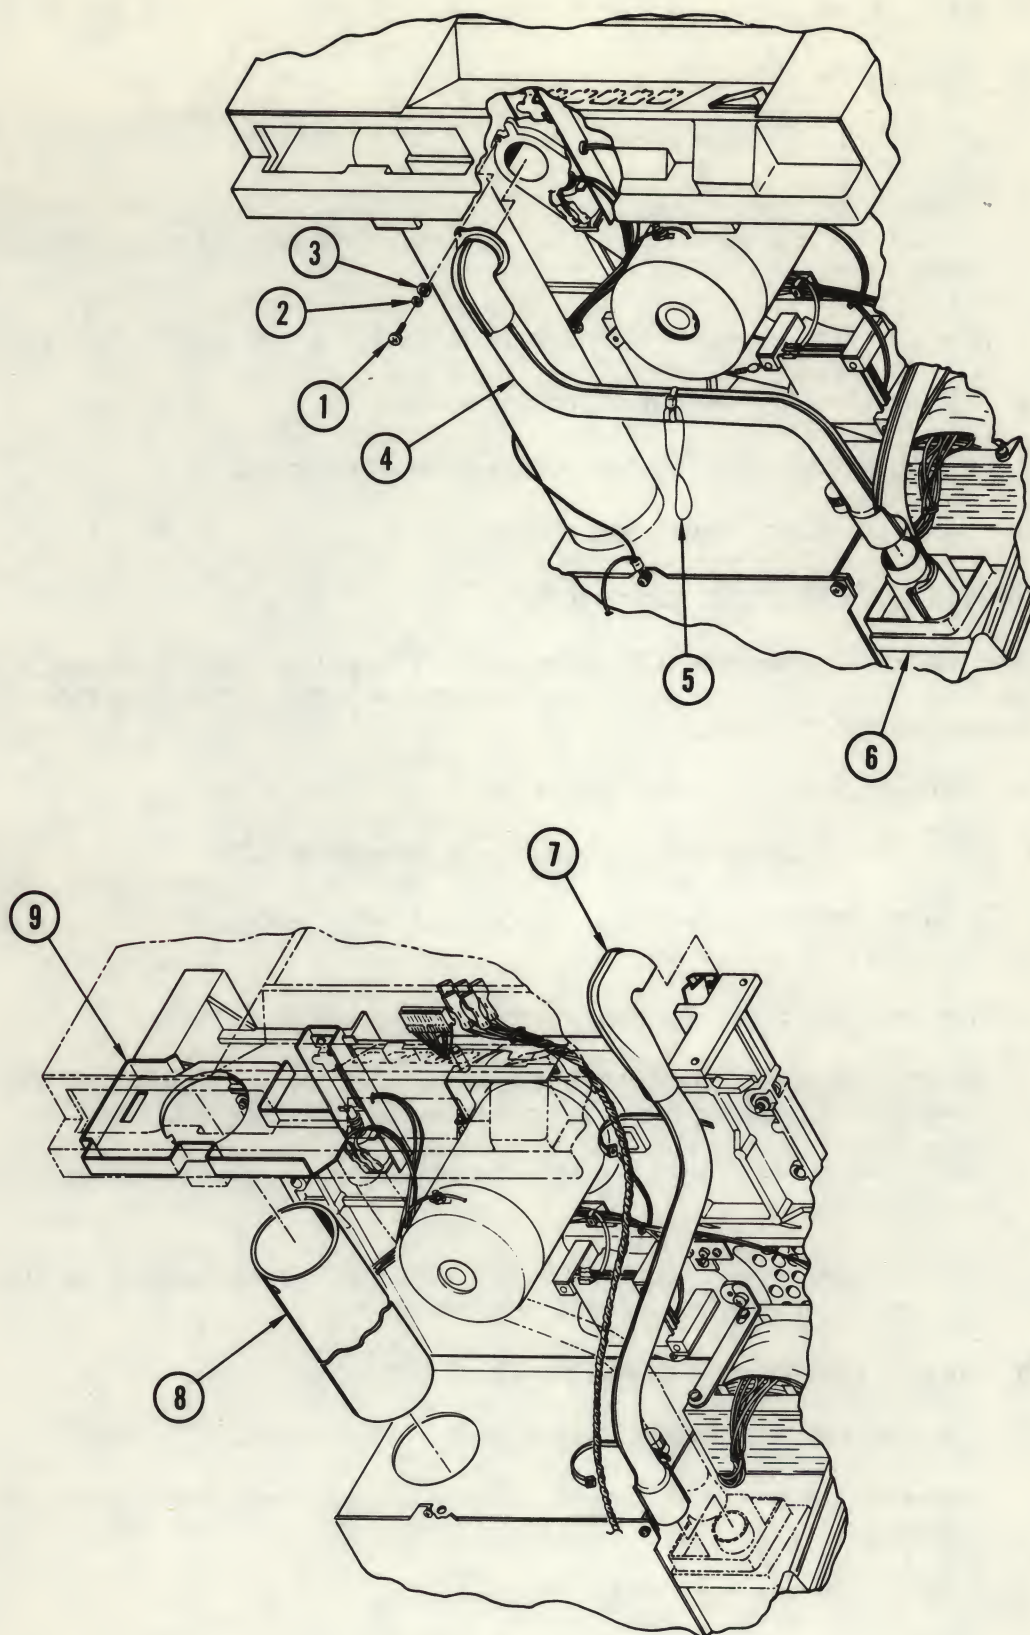

Figure 4-27. Top Plate Air Duct,
**4-41. Removal and Replacment (Figure 4-27).** Place the transport in service access position (paragraph 4-3). To replace the top-plate air duct, proceed as follows:
- a. Remove head connectors J6/J7 from main PWB and cable retractor (5). At top-plate end of top-plate air duct (4), remove screw (1), lockwasher (2), and flatwasher (3).
- b. Pull other end from blower adapter (6), and remove air duct.
- c. Remove cable retractor (5) from old duct and secure with Ty-rap on replacement duct.
- d. Install replacement duct by slipping flared end over blower adapter (6) and reinstalling screw, lockwasher and flat washer.
**4-42. Front Panel Air Duct (Figure 4-27).** Replace the front panel air duct as follows:
- c. Pull front panel just far enough away from transport to remove gooseneck end of front-panel air duct (7), noting position from which removed with reference to air deflector on front, right-hand edge of top plate.
- d. Pull other end of duct off blower adapter (6).
- e. To install replacement front-panel air duct (7), place flared end of duct on blower adapter.
- f. Position gooseneck end of duct so that it opens into air deflector and holding end of duct in place, replace front-panel assembly, squeezing positioning block of front-panel over gooseneck, ensuring that air intake tube (8) is in place in front-panel adapter (9) and power supply.
4-43. **Air Intake Tube. (Figure 4-27).** Replace the air intake tube as follows:
**4-45. Disassembly, Removal and Replacement (Figure 4-27).** To disassemble hub lock assembly and remove parts from top plate and supply motor, proceed as follows:
- c. Remove wire terminals from solenoid (3, Figure 4-27) and identify for reassembly.
- d. Remove two screws (1), and lockwashers (2), and remove solenoid (3) from top plate and spring (4) and washer (16) from solenoid plunger (5).
- e. If plunger (5) or bellcrank (8) must be replaced, remove supply motor in accordance with instructions in paragraph 4-44. Remove retaining ring (7) and bellcrank (8) from motor, and press out pin (6), releasing plunger (5).
- a. Install bellcrank (8) on supply motor with retaining ring (7). Reinstall motor on top plate in accordance with instructions in paragraph 4-44.
- b. Complete reassembly and reinstall solenoid (3) on top plate in reverse sequence of steps c and d, paragraph 4-45.
**4-47. Manual Unlock Assembly (Hub Lock) (Figure 4-27).** To replace the manual unlock assembly or one of its parts, proceed as follows:
- b. Remove manual unlock assembly from top plate by removing two screws (9, Figure 4-27) and lockwashers (10).
- c. Remove pin (14) from bracket (15) by removing screw (11), lockwasher (12), and flatwasher (13).